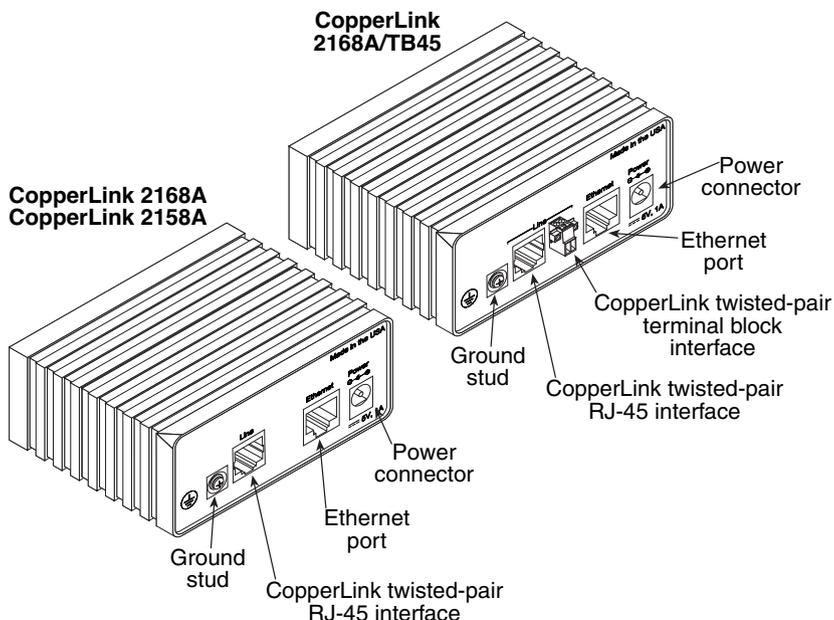

Figure 2. CopperLink Ethernet Extender rear panel
Note See Figure 2 for the unit’s rear panel arrangements.
2. Install the grounding wire between the grounding stud (see Figure 2 on page 9) and the grounding source.
3. Close the clamp and connect the cable to the line port on the unit (See Figure 2 on page 9).